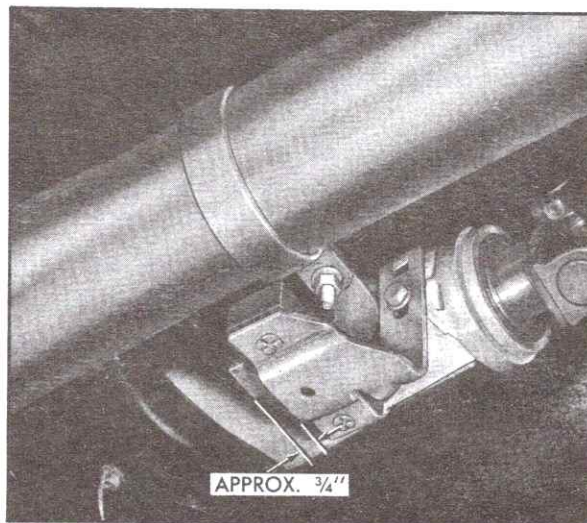

Fig. 8-5 Resonator Hanger at Transmission
1. Position resonator on exhaust pipe, allowing approximately 1-3/8 inches overlap of resonator with exhaust pipe; at the same time slide blade into hanger slot at transmission extension housing bracket, allowing blade to protrude from front of hanger slot about 3/4 inch, Fig. 8-5.
3. Make certain resonator is horizontal and has adequate clearance at transmission mounting support. At the transmission extension housing hanger, Fig. 8-5, the blade should be centered from side to side and horizontal in rubber slot of support hanger. It must not bind when system expands. The resonator support blade should be parallel with the transmission housing bracket. Support hanger should be horizontal. A small amount of silicone lubricant should be in rubber slot of the hanger. End of blade should protrude approximately 3/4 inch from bracket, Fig. 8-5.